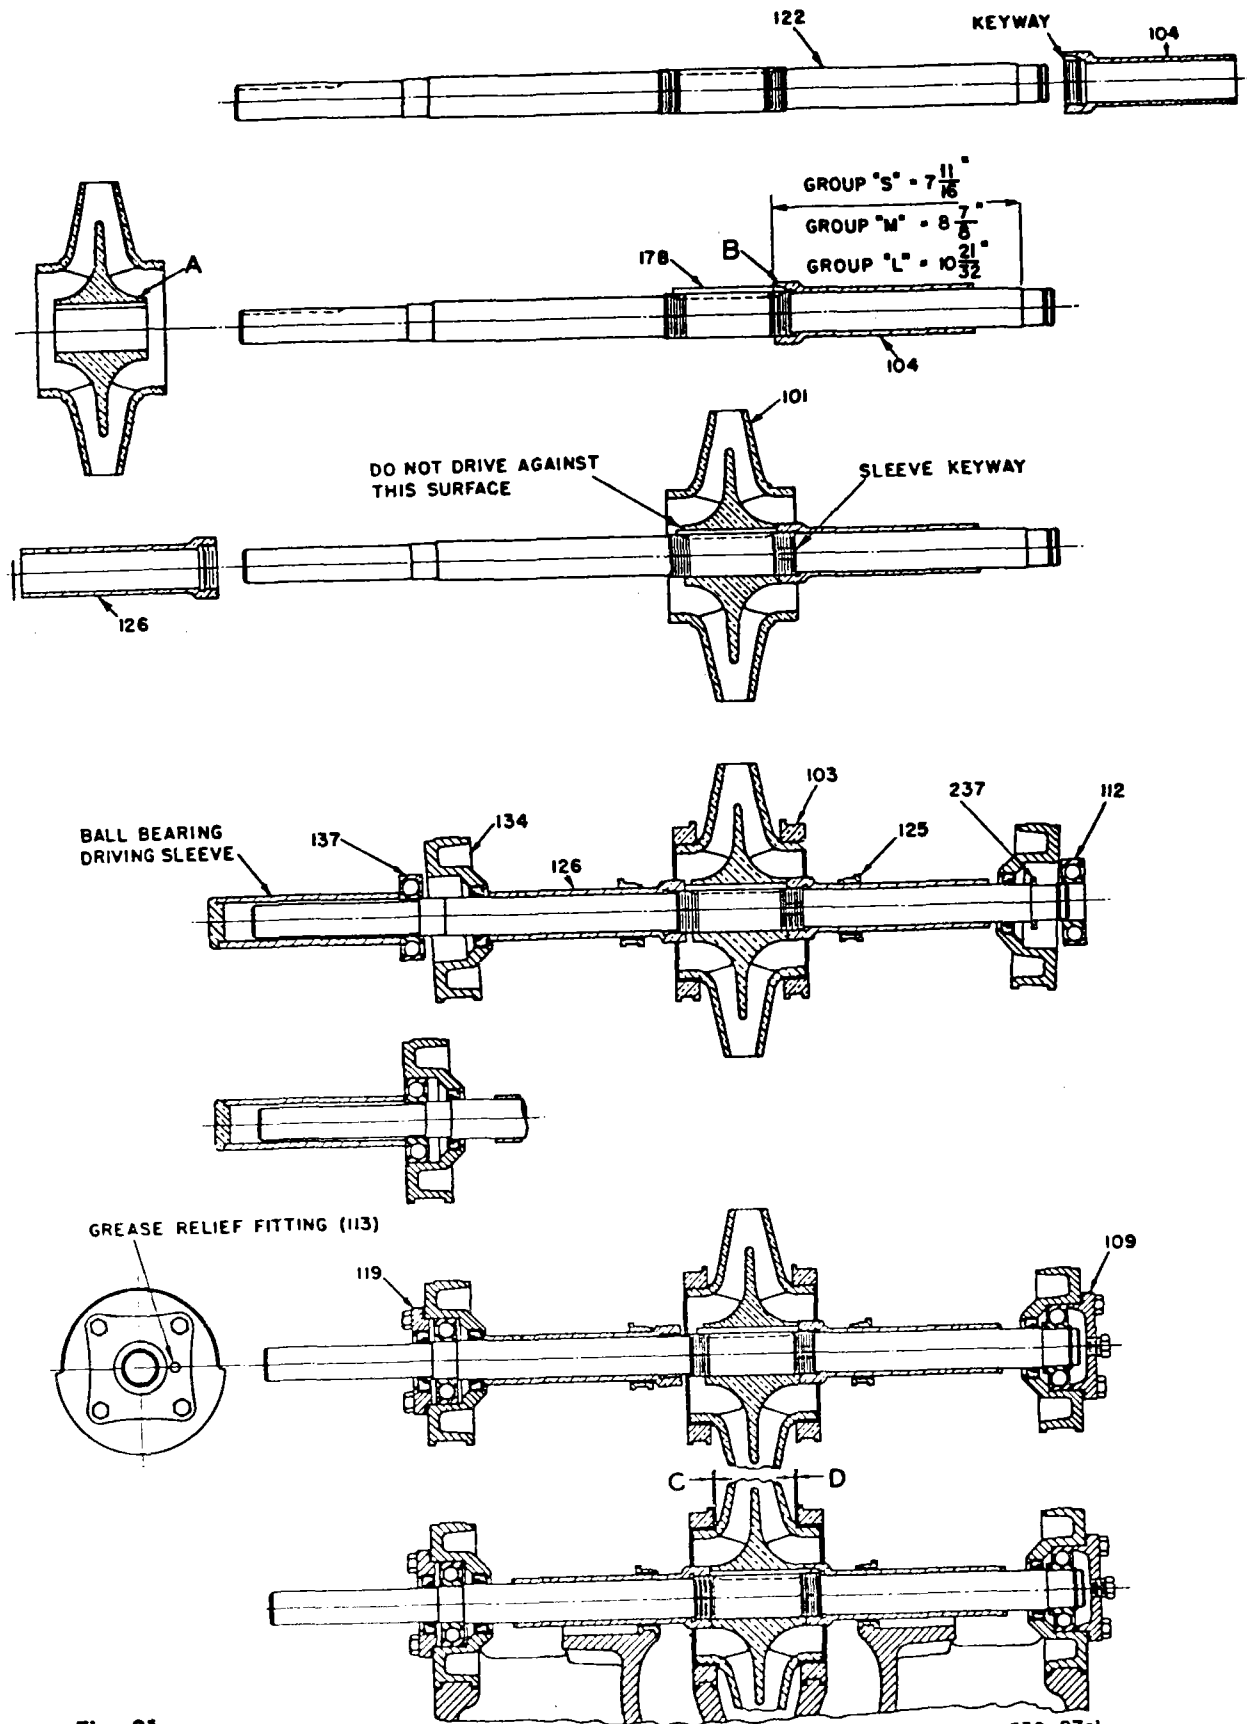

Fig. 21
20. Oil shaft extension and slide coupling end bearing end cover (119) with gasket (360) in place, being careful not to injure grease seal (332). Turn end cover so that the small oil cup is in line horizontally with center of shaft when the double lock of the bearing housing are in the lowermost position (see Figs. 21 and 22). This oil cup is used as a pressure relief for the bearing housing. It must be in the horizontal position to facilitate the correct filling of the grease chamber. (Note that the location of this relief fitting is shown at the top in the sectional assembly, Section VI—C (page 16), only to show construction details.) Bolt the bearing end cover securely in place.
After the element has been properly seated in the lower half casing, tap impeller along shaft until the shoulders on the impeller are in the center of the space between the two casing wearing rings (103). In other words, dimension "C" and "D" — Figs. 21 and 22 (pages 22 and 23) will be equal.